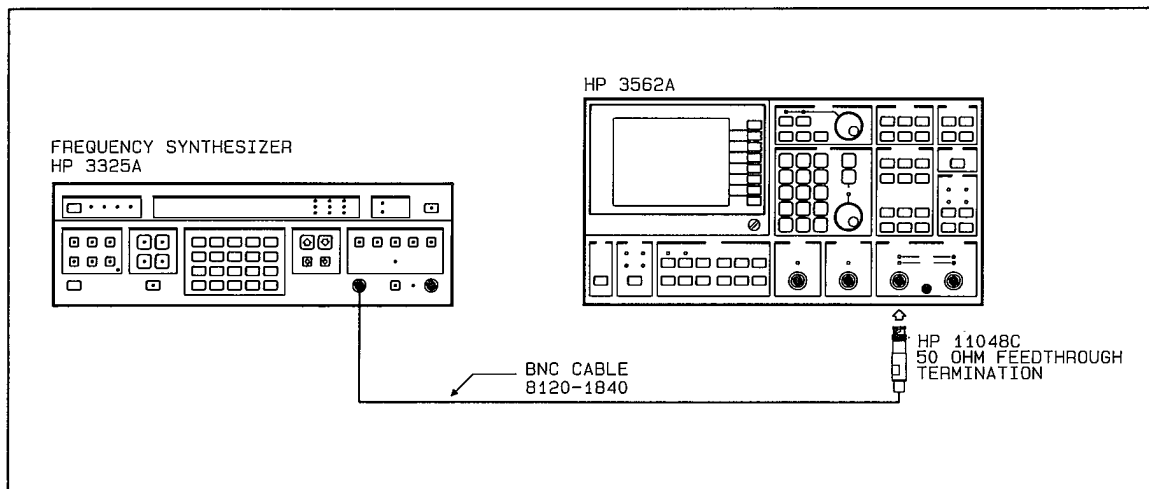

Figure 2-16 Frequency Accuracy Test Setup
- A. Connect the test equipment as shown in figure 2-16. Refer to "Initial Equipment Setup," paragraph 2-20, for unspecified parameters.